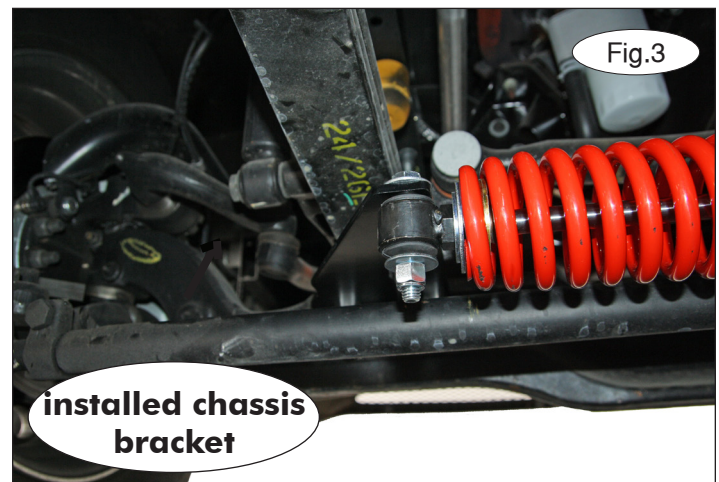

Fig.3
4. Place one of the included 1/2" fender washers over a 1/2" x 3" bolt and place the bolt through the mounting hole in the B803 axle bracket. Attach the shock assembly as shown in Figure 3. Finish with another 1/2" fender washer and 1/2" nylock nut. Finger tighten only at this time.